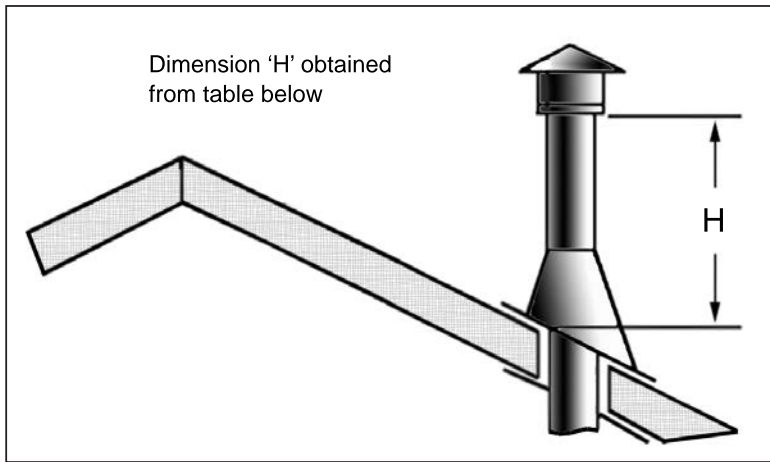

Figure 71: Height of Vertical Termination;
- Step 4.** Measure roof pitch. Select the proper flashing and storm collar and determine the height above the roof (see Figure 71). A non-corrosive pipe material must be used for all exterior pipe lengths. Seal nail heads with silicone.